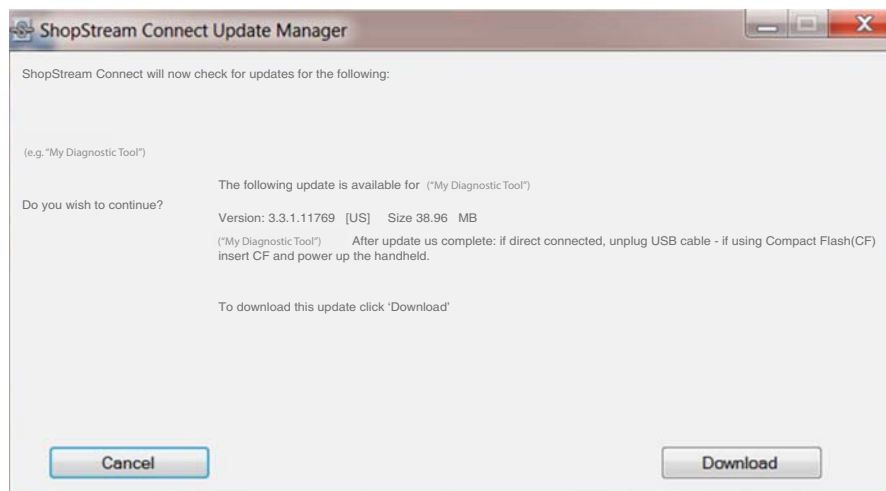

Figure 14-9
2. If service release updates are available, select **Next** to continue, then select **Download** and follow the on-screen instructions to complete the installation (Figure 14-9).